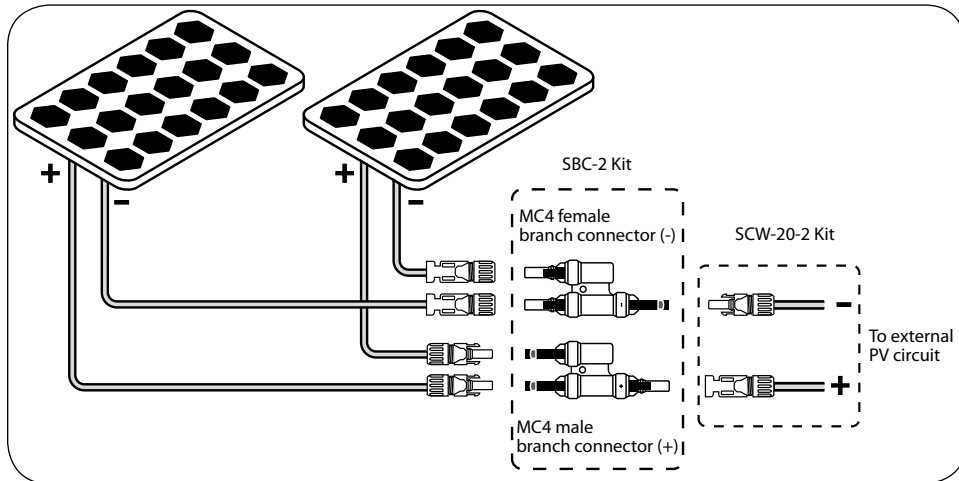

Fig. 6.5. Connecting two adjacent solar panels in parallel
6.5. Connecting two adjacent solar panels in parallel (Fig. 6.5)
Two or more solar panels can be connected in parallel to increase the current output at the same output voltage. Fig. 6.5 above shows the arrangement for connecting two solar panels in parallel using the SCW-20-2 Connecting Wire Kit and the MC4 Branch Connector Kit (SBC-2) sold separately. This arrangement is applicable if the two solar panels are to be mounted adjacent to each other.